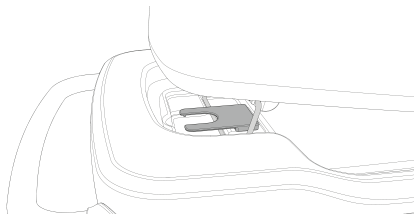

Figure 5 – Tilt bar secured in the elevated position
1. To tilt the basket upward, grasp basket at the logo and lift upward until the tilt bar slides into the slot. (Figure 5).